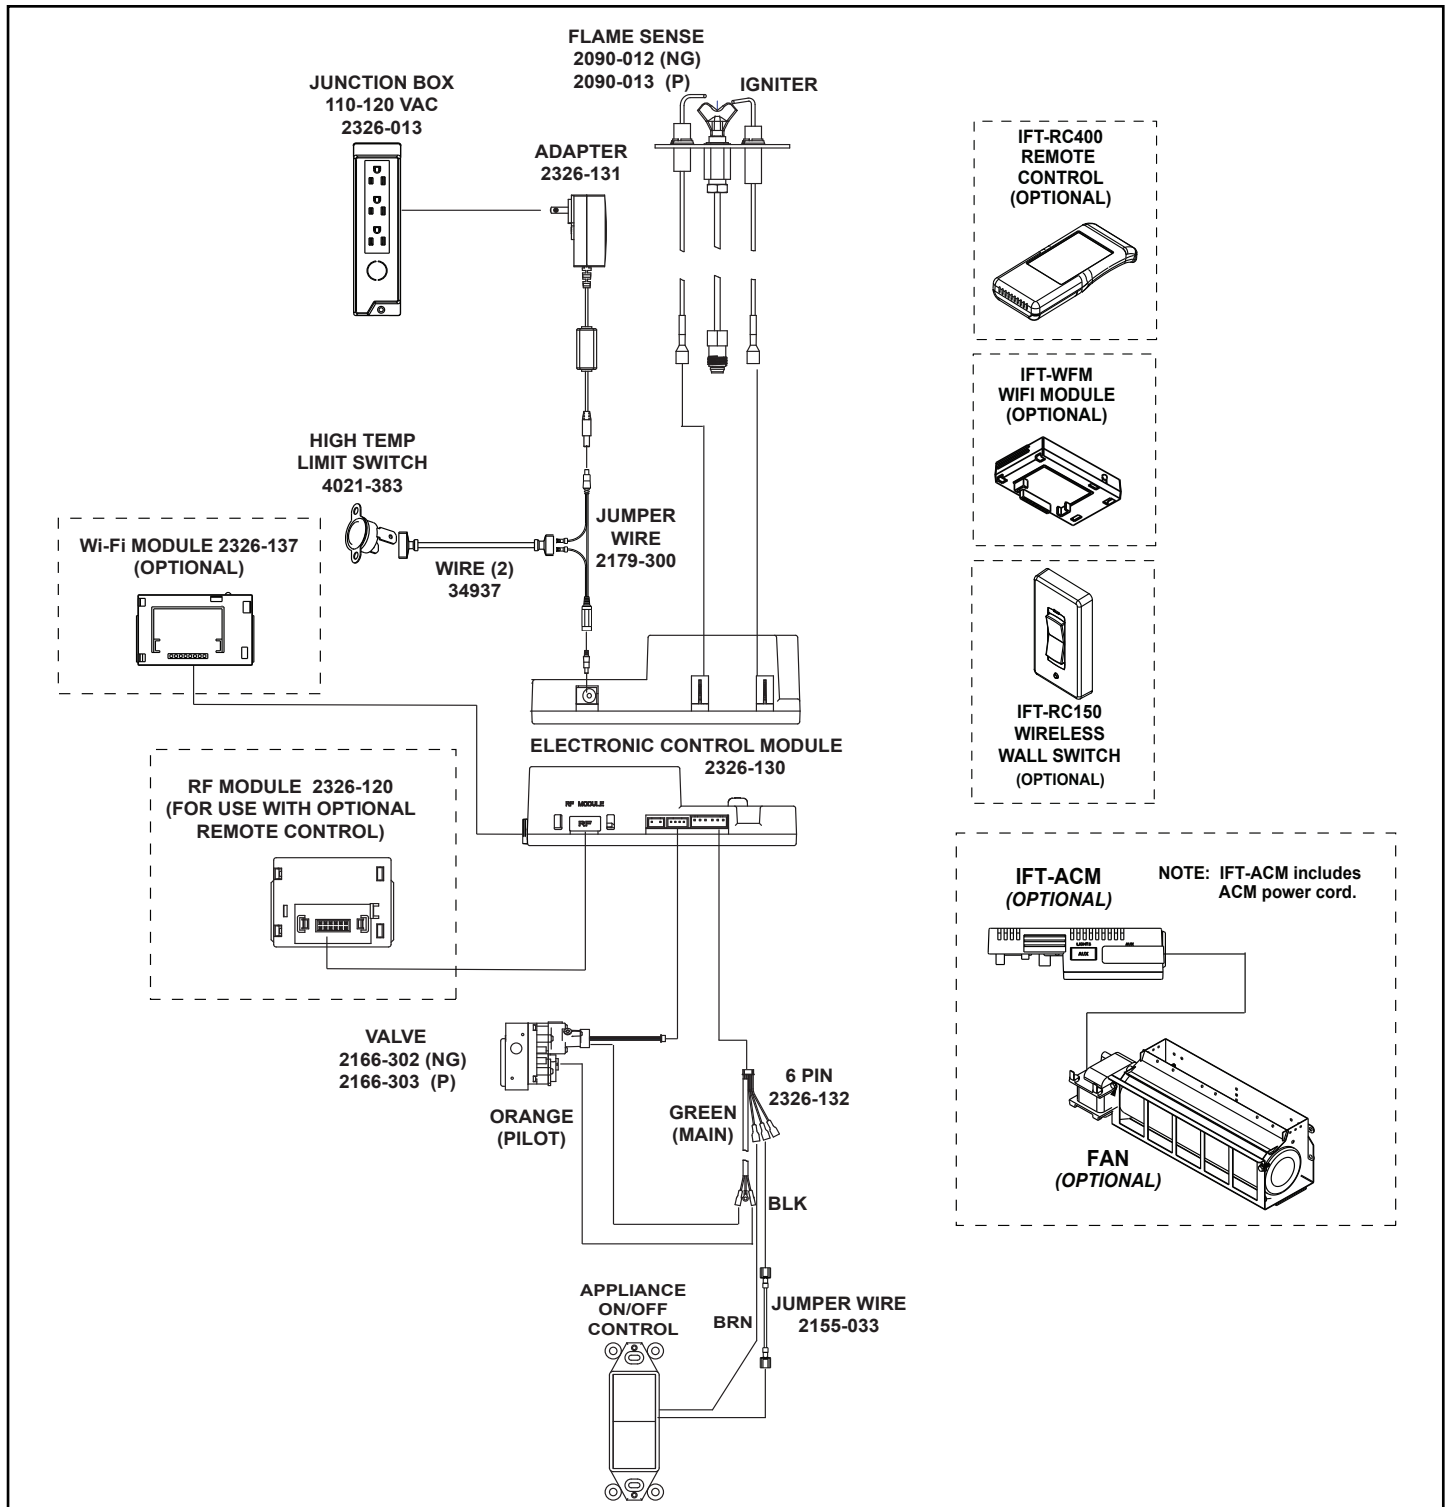

Figure 9.2 IntelliFire Touch Wiring Diagram
- Refer to Figure 9.2 IntelliFire Touch (IPI) Wiring diagram.